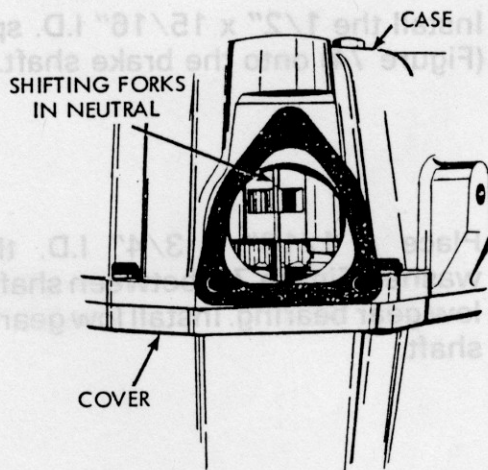
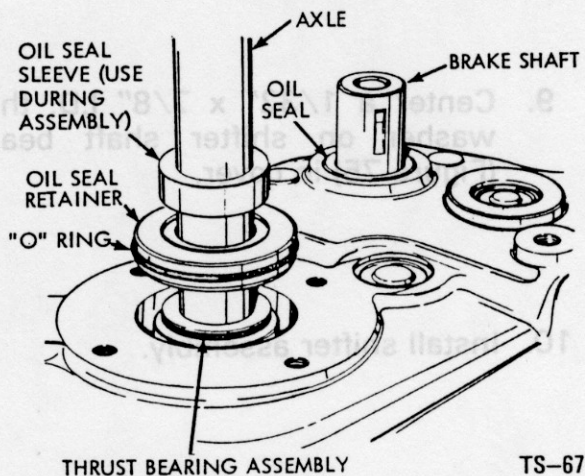

Figure 77 - Install Case
Figure 78 - Install Seal Retainers
12. Assemble the case to the cover as follows: (Figure 77)
- e) Drive the (2) dowel pins into case half.
- f) Install the (8) socket head cap screws between case and cover and torque to 10 ft. lbs.
13. Install new "O" ring seal on retainer. Install new oil seals in retainer. Place retainer (Figure 78) onto axle shafts. Both retainers are the same.